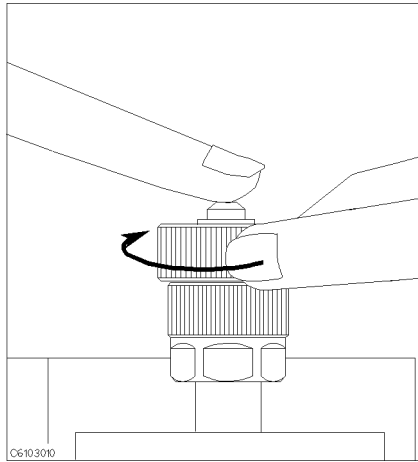

Figure 5-8.
8. Connect the $0\ \Omega$ termination on the APC-7[®] connector as shown in Figure 5-8.